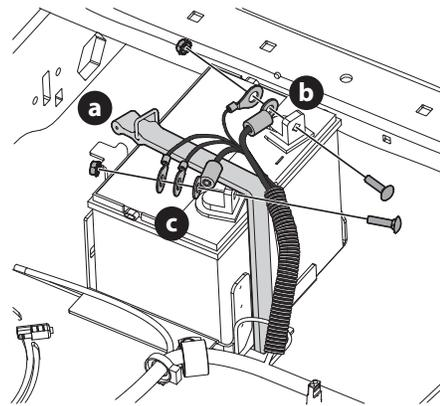

Figure 33
2. Remove the bolt and nut securing the negative cable grouping (b) to the negative battery post (marked NEG (-)). Move the cable grouping away from the negative battery post (Figure 33).
3. Remove the bolt and nut securing the positive cable grouping (c) to the positive battery post (marked POS (+)) (Figure 33).
4. Unhook the strap (a) holding the battery in place (Figure 33).
**NOTE:** Wiring harness should lay on top of battery hold down strap, otherwise damage to the wiring harness may result (Figure 33).